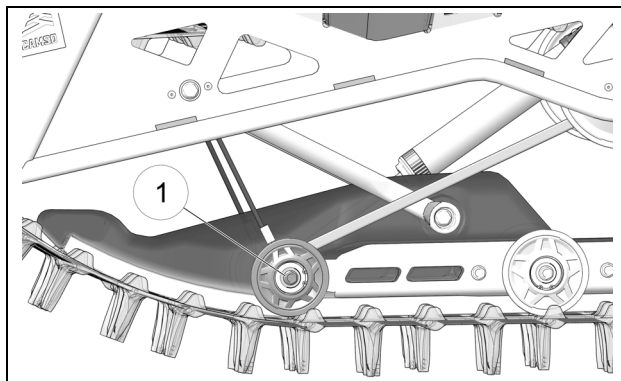

Figure 13
- Loosen the wheel assembly bolt (1) located next to the grooved bushing where the long end of suspension spring sits and remove the wheel. See Figure 13.